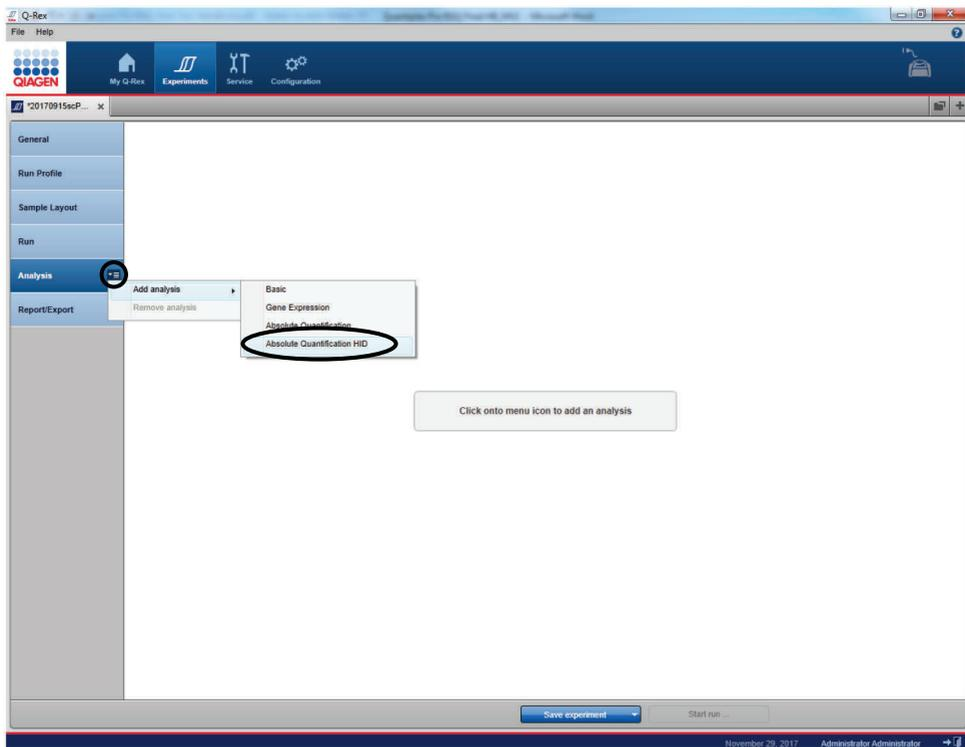

Figure 30. Selecting "Absolute Quantification HID" in Q-Rex.
5. Add analysis method by clicking on the selection menu within the "Analysis" step marker on the left side, followed by "Add analysis" and then selecting "Absolute Quantification HID" (Figure 30).